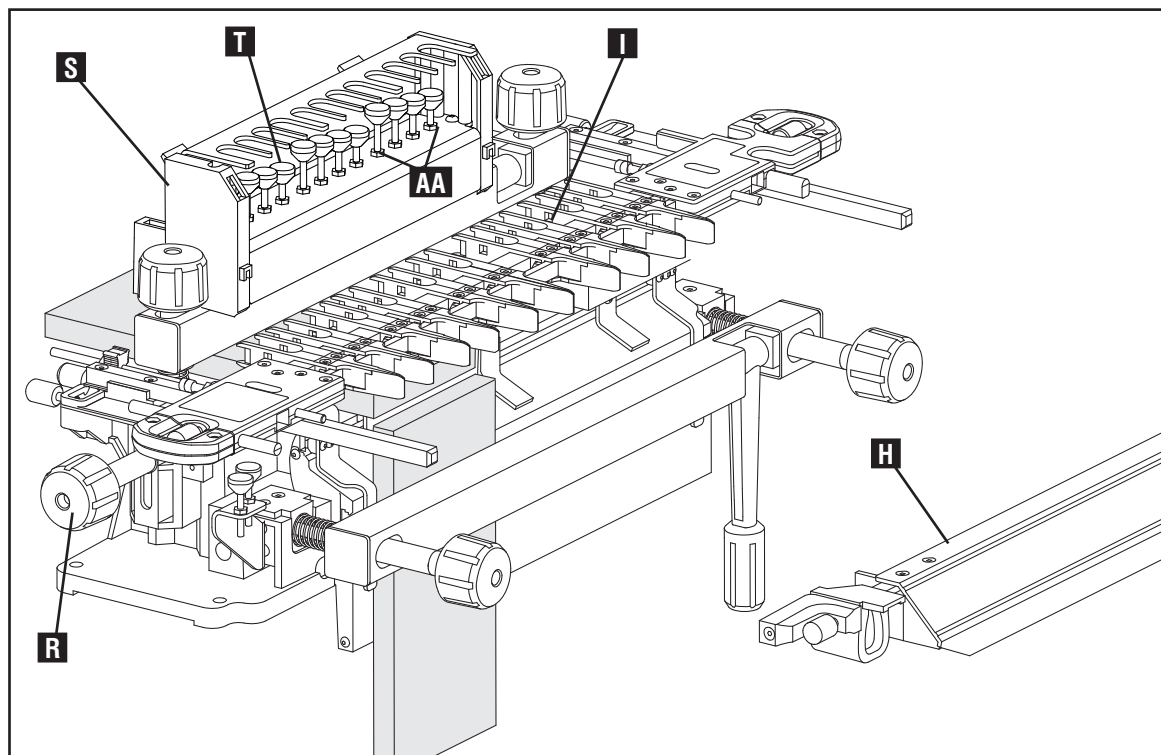

Fig. E6
9. Drop template (I) Fig. E6 down and tighten template lock knobs (one is shown at R). Replace stabilizer bar (H) and lock in place.
11. Set router bit depth using the variable-spaced half-blind router bit depth settings at (S) Fig. E6, which are standard on the 24" OMNIJIG.